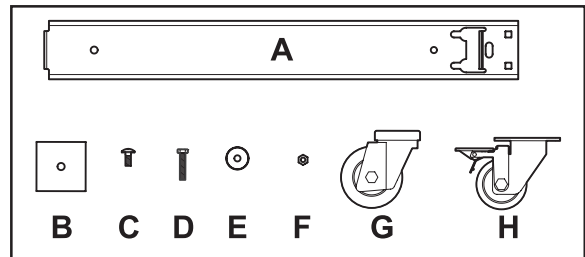

Figure 1
- Remove and discard the two (2) wood skids from the bottom and the four (4) screws (see the Fig. 1).